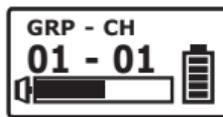

Fig. 6
### 3. GRP-CH: Display Group and Channel Information, Fig. 6.
- (A) Press MODE button to access GRP-CH to show current group and channel. Blinking will stop after 30 seconds.
- (B) Group and Channel are synced from receiver and cannot be changed, Fig. 6.